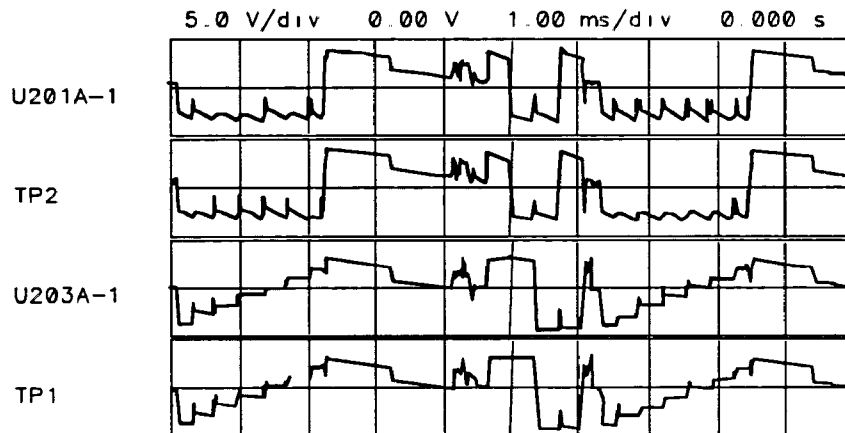

Figure 10-6. Distorted X/Y Line Generator Waveforms
11. The following waveforms should look like Figure 10-6 on the oscilloscope. The top two traces are for the X Line Generator and the bottom two traces for the Y Line Generator.